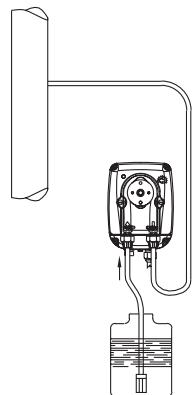

Fig. 5
- c. - Locate the pump as shown in fig. 5 bearing in mind that it may be installed either below or above the level of the liquid to be dosed, though the level difference should not exceed 2 meters. In case of liquids that generate aggressive vapours, **don't install the pump above the storage tank unless the latter is hermetically sealed.**